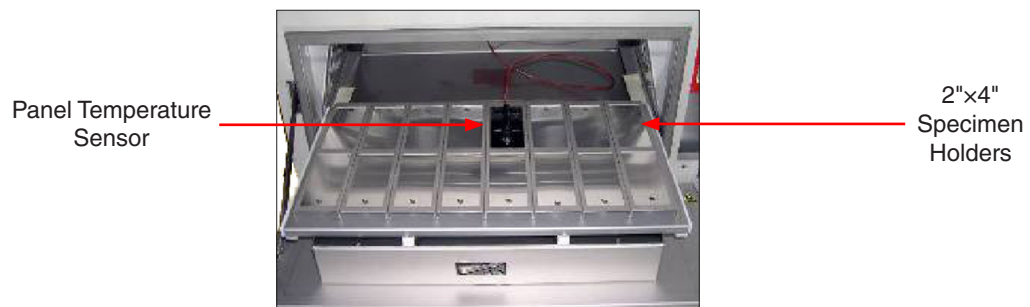

Figure 8.1f: Correct location of the panel temperature sensor.
- The panel temperature sensor can be attached to the specimen tray or preferably be mounted in a 2x4" specimen holder (Figure 8.1f).